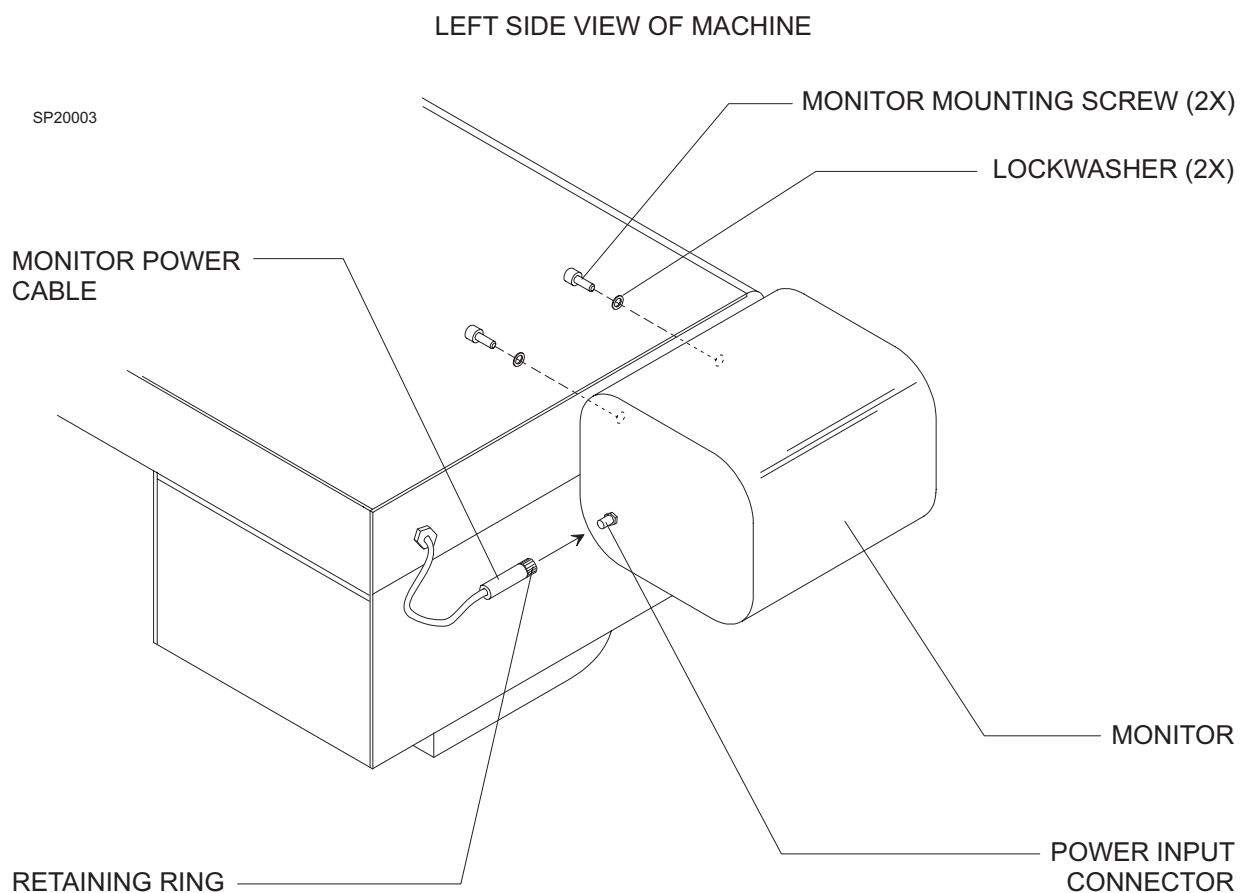

FIGURE 3. Core-M Monitor Removal
12. Disconnect the 9V supply cable from the rear of the Core-M monitor. See Figure 3.